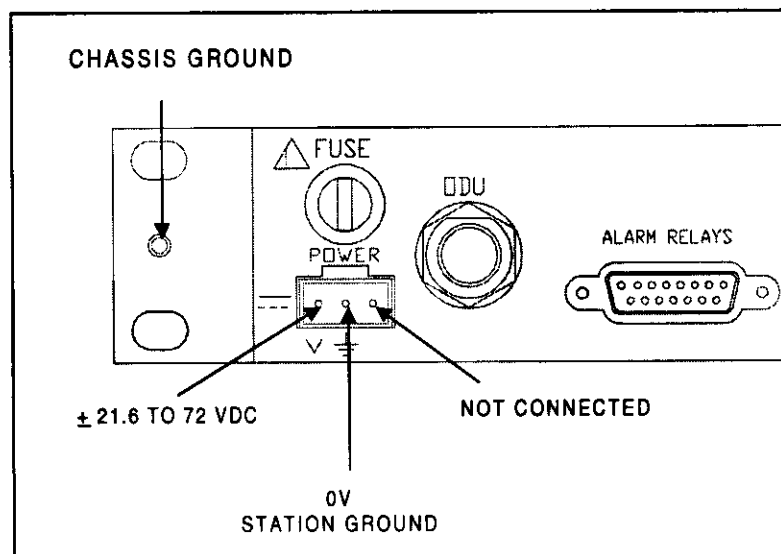

Figure 3-8. IDU Power Connector Detail
- Step 7.** The XP4 requires DC power (±21.6 to 72 Vdc) via a 3-pin connector. Ensure that the plug provided in the installation kit is wired as detailed in Figure 3-8. Recommend use of 14 gauge wire (1.5mm²